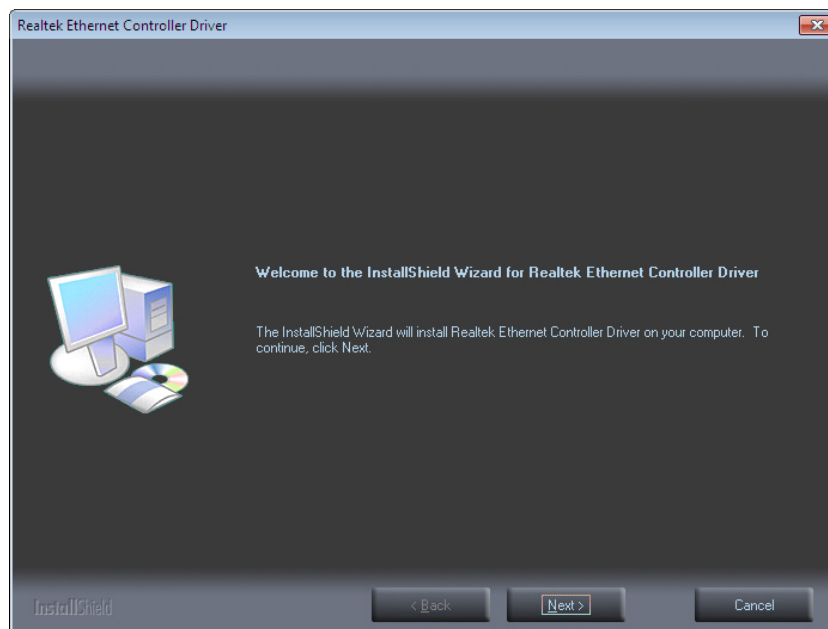

Figure 6-13: LAN Driver Welcome Screen
Step 4: The **Welcome** screen in **Figure 6-13** appears. Click **Next** to continue.